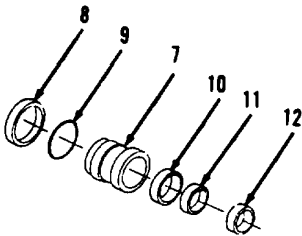
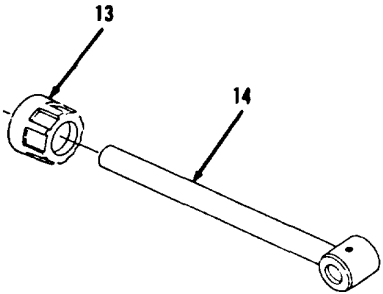

Figure 14-119.
Figure 14-120.
- 6. Remove and discard ring (8), preformed packing (9) and seals (10 thru 12) from head (7, Figure 14-119).
- 7. Remove crown (13) from rod (14, Figure 14-120).
- 1. Using hydraulic fluid, lubricate inside of crown (13, Figure 14-120).
- 2. Install crown (13) on rod (14).
- 3. Using clean oil, lubricate new seals (12 thru 10), new preformed packing (9) and new ring (8).
- 4. Using seal installer, install new seals (12 thru 10, Figure 14-119) in head (7). Lip of seal (11) is toward inside of head (7). Lip of seal (10) is toward outside of head (7).
- 5. Install new preformed packing (9) and new ring (8) to head (7).